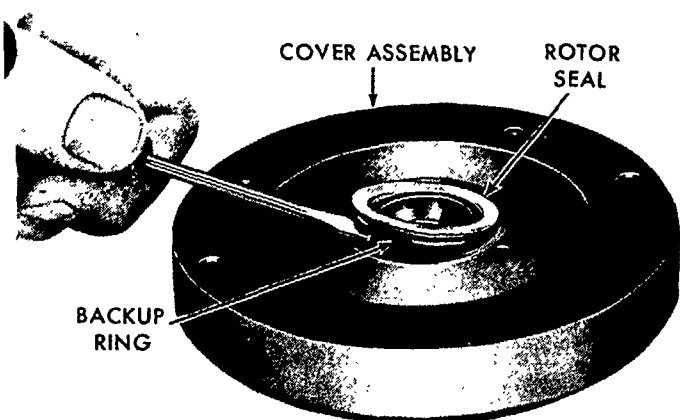

Figure 91
7. Remove the rotor seal and backup ring, Figure 91, from the cover assembly.
11. Install a new backup ring and the rotor seal in the cover assembly, Figure 91.